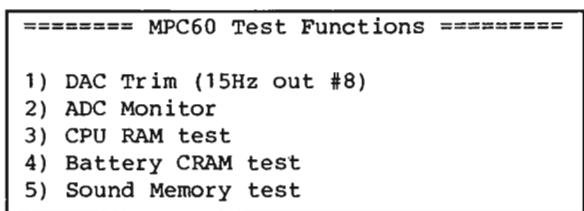

Fig. 5-1
- * Insert the TEST DISK into the disk drive, then switch the power ON. The following menu will appear on the LC-display a few seconds later indicating that the unit is set to test mode. (Fig. 5-1)
For testing each section of RAM operation, a RAM test software in test mode is used as shown in the Fig. 5-1. These programs test the function of each RAM and indicates if the LSI of each RAM functions correctly or not. In case of faultless operation, "OK" will appear on the LC-display, while malfunctions are indicated by "ERROR". The "ERROR" display contains messages pointing out which LSI and peripheral circuit to be checked.
4. When the test is completed, press ENTER key to return to the main menu (Refer to Fig. 5-1).
3. When the test is completed, press ENTER key to return to the main menu on the LC-display (Refer to Fig. 5-1).